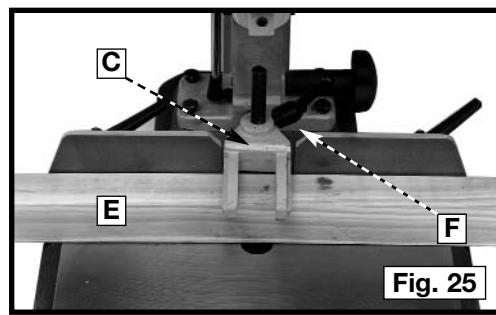

Fig. 25
The hold-down (C) Fig. 25 prevents the workpiece (E) from lifting as the chisel is lifted out of the hole. To adjust the hold-down, loosen the handle (F), position the hold-down so that it just touches the top of the workpiece (E), then tighten the handle. You can turn the hold-down (C) upside down to accommodate thicker workpieces.